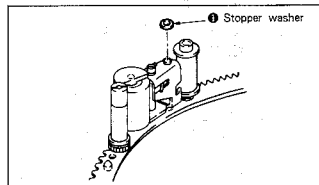

Fig. 7-25.
- 5) Fix the stopper washer ①. (See Fig. 7-25.)